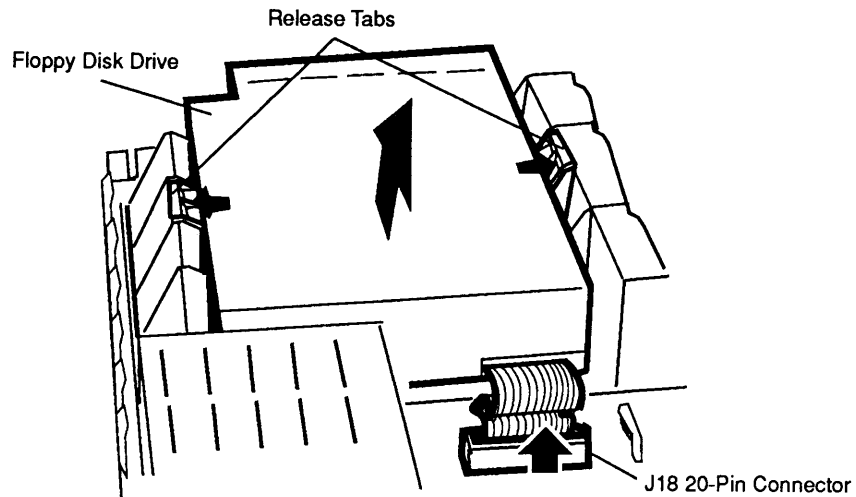

Figure 2-8 Floppy Disk Drive
2. Disconnect the 20-pin connector (J18) from the logic board (**Figure 2-8**).
3. Release the two metal-colored tabs (**Figure 2-8**), and lift the drive straight up and out of the computer. Retain the 20-pin cable for the drive replacement.